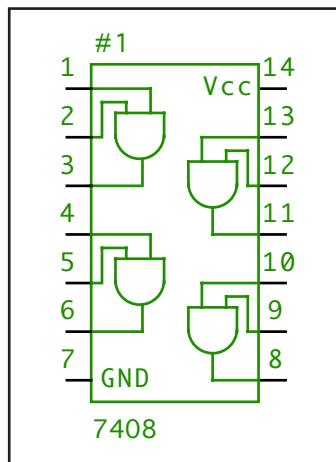

Figure 3.14 7408 IC
1. Take a 7408 IC and insert it into your breadboard. This chip has four AND gates, arranged as shown in Figure 3.14. Note the location of the notch in the diagram.